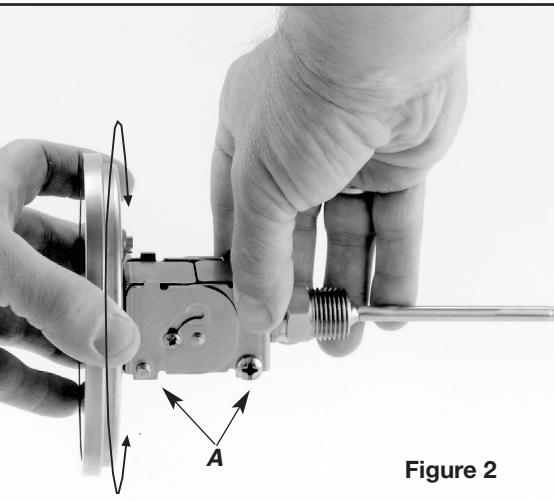

Figure 2
**Figure 2:** While holding the case, revolve the harness clockwise or counterclockwise, as indicated by arrows in Figure 2, to place the harness in a position that will permit flexing the stem in the desired direction with respect to the case. Then lock the two screws labeled "A".